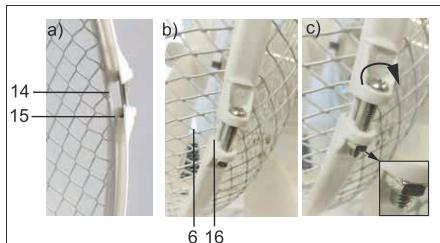

Fig. 17: Mounting of front protective grille
11. Pull the resulted ring onto the edge of the rear protective grille (14).
- The edge of the protective grille must lie in the rear groove (15) of the fixing tape. Fig. 17 a).*
12. Insert the front guard grille (6) into the front groove (16) of the fixing strip. Fig. 17 b).
13. Tighten the Phillips screw further clockwise using a Phillips screwdriver. Fig. 17 c).
The blower intensity can be adjusted in 3 steps by pressing the push buttons 0-3 (17, fig. 17):